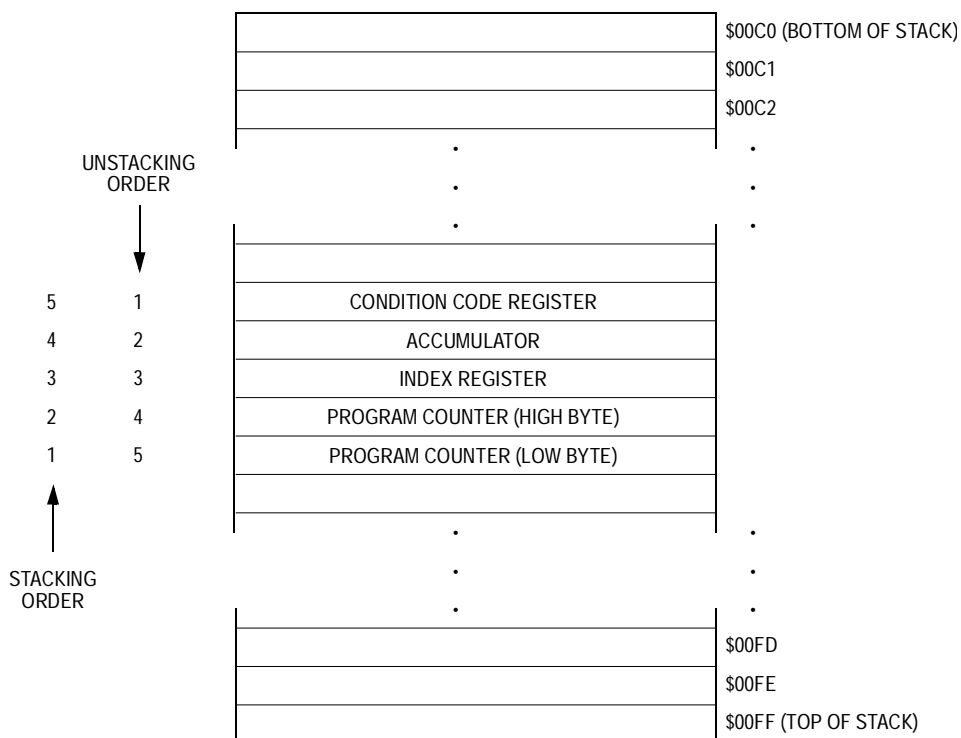

Figure 5-6. Interrupt Stacking Order
- Stores the CPU registers on the stack in the order shown in **Figure 5-6**
The return from interrupt (RTI) instruction causes the CPU to recover the CPU registers from the stack as shown in **Figure 5-6**.